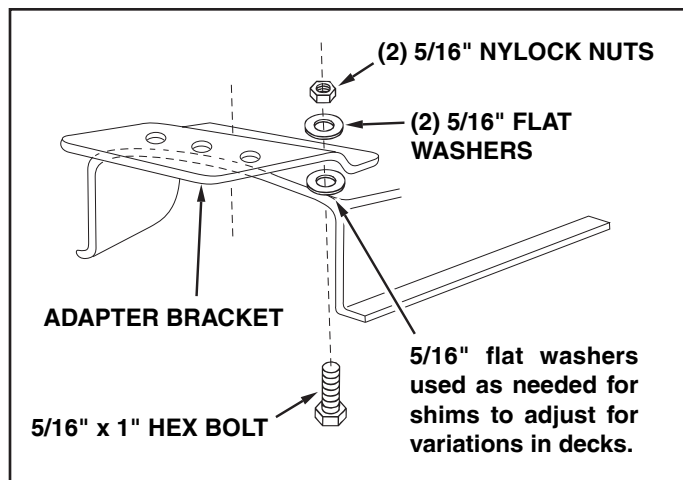

FIGURE 27
6. Assemble the adapter bracket to the deck using two 5/16" x 1" hex bolts, 5/16" flat washers and 5/16" nylock nuts. See figure 27.
**NOTE:** It may be necessary to use extra 5/16" flat washers to shim under the bracket next to the deck surface. Ten extra washers have been furnished as shims. See figure 27.